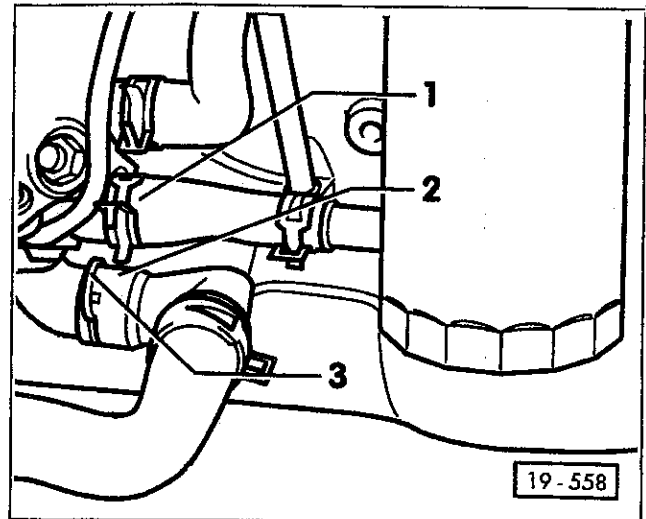

Fig. 4. Drain coolant by removing retaining clip (3) and then connector pipe (2). Also disconnect hose (1).
3. Working at the coolant pump, remove the retaining clip from the connector pipe. Pull the connector pipe from the pump housing and disconnect the lower hose from the pump. Allow the coolant to drain. See Fig. 4.